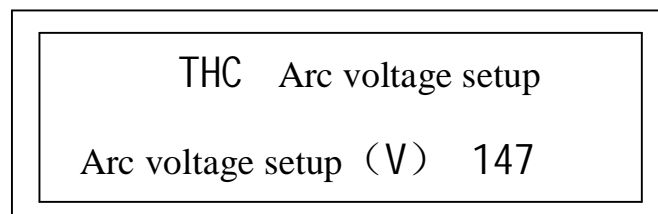

Fig.3: Arc voltage setup interface
1)、Arc Voltage: Fig. 3 Set up the given arc voltage for cutting. Arc voltage is given. The height of cutting torch is fixed. The arc voltage should be adjusted as per the parameter list which is provided by manufacturer, Unit V.